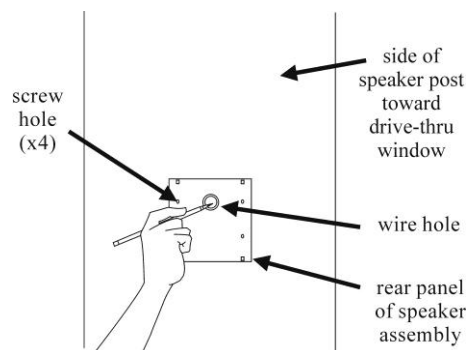

Figure 18. Mark speaker post or menu board through wire hole in rear panel of SP2500LP speaker assembly
- Hold the rear panel of the SP2500LP flat against the surface of the speaker post or menu board, at the desired mounting location, as shown in Figure 18. Use a pencil to mark the speaker post through the wire hole in the panel. Remove the panel and set it aside. Drill a ¼ inch (6 mm) wire hole at the marked location.